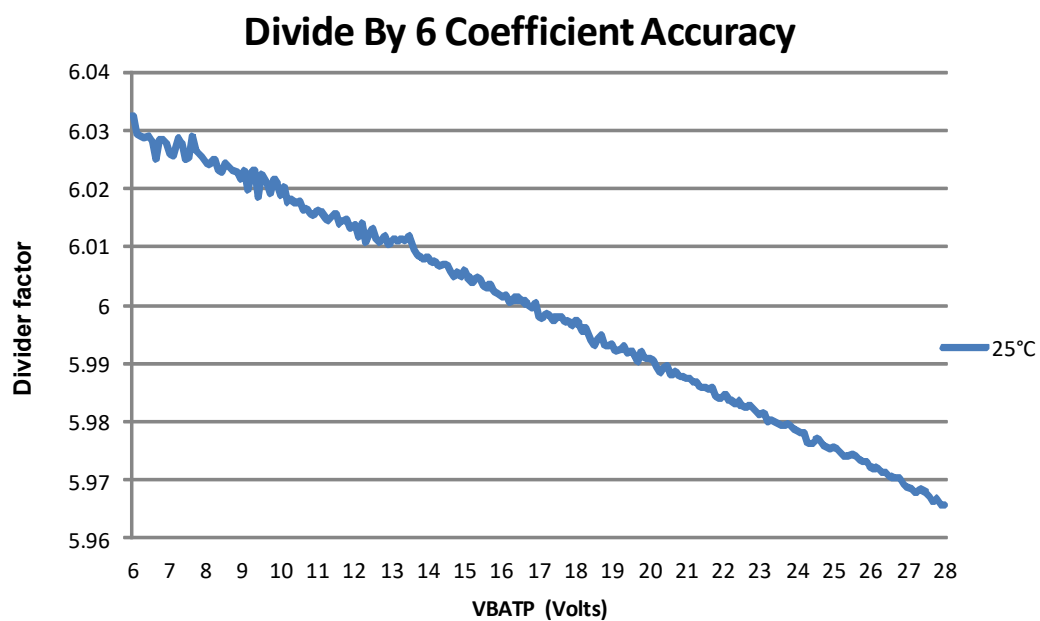

Figure 4. Divide by 6 coefficient accuracy
23. Calibration of divider ratio can be done at $V_{BAT} = 12\text{ V}$, $25\text{ }^{\circ}\text{C}$ to achieve a higher accuracy. See Figure 4 for AMUX offset linearity waveform through the operating voltage range.